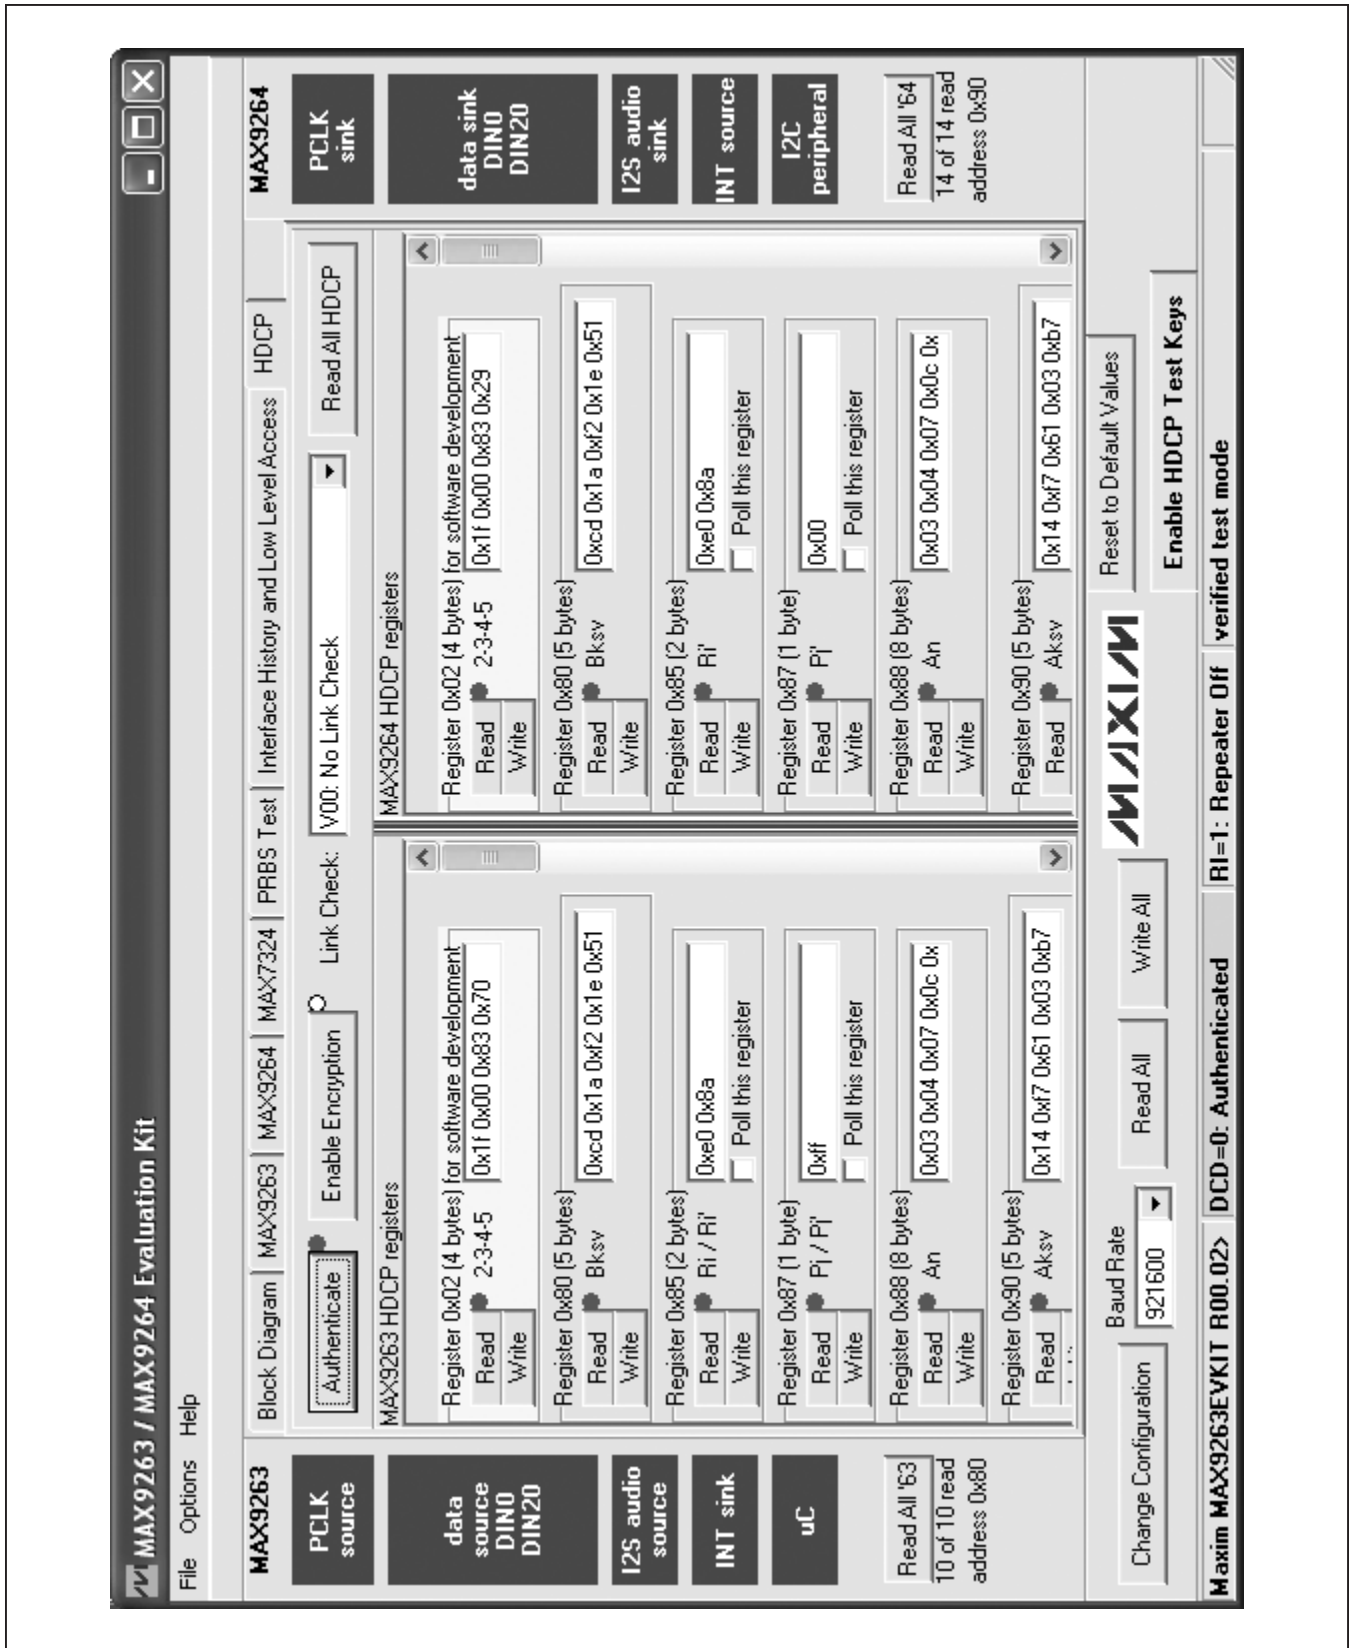

Figure 7. MAX9263/MAX9264 EV Kit Software Main Window (HDCP Tab)
- 15.6) On the **HDCP** tab sheet (Figure 7), verify that HDCP authentication between Board #1 and Board #2 is successful. The corresponding Bksv and Aksv values should match, and the Ri keys should be updated with the same value.
The **HDCP** tab sheet (Figure 7) shows the HDCP registers of both the MAX9263 serializer and the MAX9264 deserializer side-by-side. This tab sheet is removed if the device capabilities register does not indicate that the device supports HDCP, so if the software is used with the MAX9259, MAX9260, MAX9249, or MAX9268, this tab sheet is not visible. Many of the HDCP registers are displayed as multiple hexadecimal bytes, with a 0x prefix before each byte and spaces between bytes. The **Authenticate** button commands the firmware to perform HDCP authentication, using either internal or external comparison depending on the **EN_INT_COMP** bit in the Actrl register. The **Enable Encryption** button waits for a falling edge on VSYNC and then writes to the MAX9263 Actrl and MAX9264 Bctrl registers, with the encryption enable bit set to 1. When the button caption changes to **Disable Encryption**, operation is the same except that the encryption enable bit is cleared to 0. After encryption is enabled, registers 0x85 and 0x87 are repeatedly polled as long as each register's **Poll this register** checkbox remains checked. The **Link Check** drop-down list configures the optional HDCP link integrity check, which can check the R values every 128 VSYNC falling edges or check the P values every 16 VSYNC falling edges.